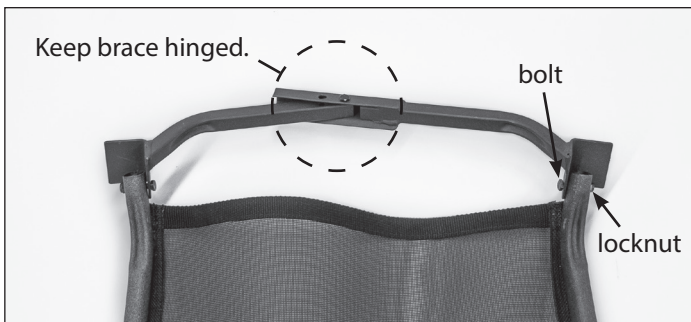

FIGURE 11 - Insert (2) 1/4-20 x 1-1/4" bolts
f. Insert (2) 1/4-20 x 1-1/4" bolts through the front hinged brace and each side rail, and finger tighten locknuts. **SEE FIGURE 11.** Brace should remain hinged.